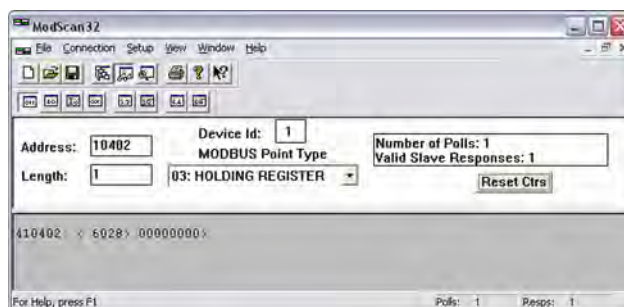

Fig. 222: Modscan32 at address 410402
- ➔ Set the configuration to address parameter 10401 as shown in (Fig. 222).